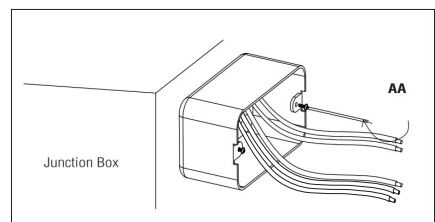

Figure 5
- i. Install the two screws (AA) into the junction box, leave 1/4" of screw exposed to accommodate lamp base. (Figure 5)